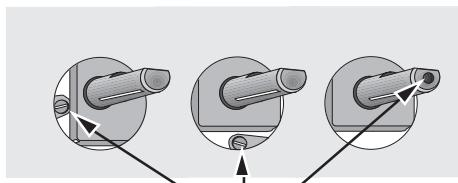

Fig. 3
- With a thin screwdriver, adjust the by-pass screw (Fig. 3). If changing **from natural gas to LPG**, completely tighten clockwise the screw, until a small regular flame is obtained.